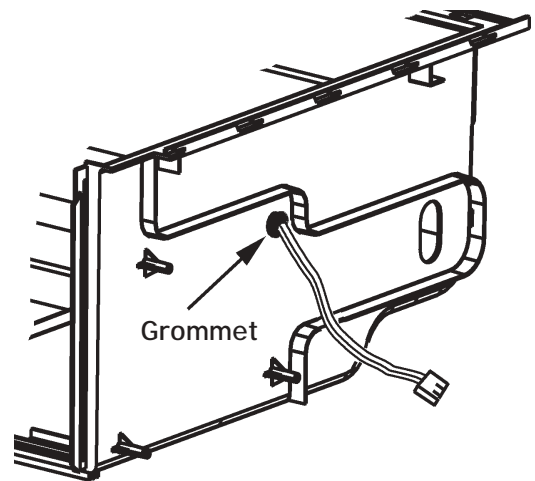

Figure 2-16
6. Remove the thermistor grommet from the outer enclosure. (See Figure 2-16)